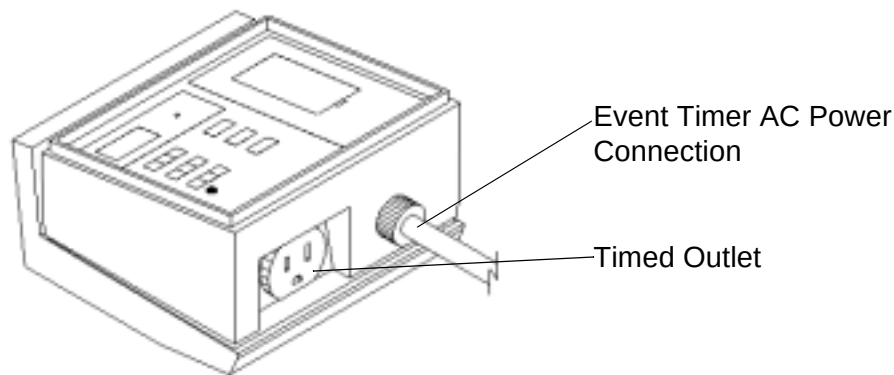

Figure 32. Event Timer Rear View
4. Remove the event timer power connection from the power panel. See “Understanding the Power Panel” on page 47. Figure 32 shows the rear of the Event Timer